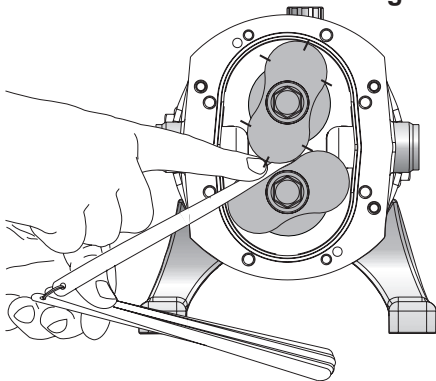

Fig. 15
1. Measure the interlobe clearances with feeler gauges at the 6 positions as shown in fig. 15. If these clearances are outside the tolerances stated in section 6.8. (column "Interlobe"), it is necessary to re-time the rotors.
2. Remove can (26) as described in section 4.4.
3. Choose one of the shafts to work on. Straighten the locking tab on the washer (55) and loosen the gear nut (56). (use e.g. a wedge shaped object of soft material e.g. wood, plastic or nylon wedged between the two wheels.) Ease the gear (54) max. 1 mm back along the shaft (it is important not to move the gear more than the 1 mm as it can cause damage to the rotors themselves).
4. Re-check the clearances and see if the rotors have shifted in the correct direction according to section 6.8. If the rotors have shifted in the correct direction as wanted go to section 4.9.1 item 6.
5. If the rotors have **not** shifted in the correct direction, retighten the gear nut (56) to the specified torque as described in section 6.1 and bend the tab washer down again (55). Return to section 4.9.1 item 3, but work on the other shaft.
7. The new distance between the spacer (52) and the moved gear (54) is measured with feeler gauges. Shims (53) with the total thickness corresponding to the distance measured are selected.
8. Remove the gear (54) and gear key (40) as described in section 4.6 from the shaft and fit the selected shims (53) on the shaft.
9. Re-fit gear key (40) and gear (54) as described in section 4.6.1. Re-fit tab washer (55) and gear nut (56) and tighten it to the specified torque as described in section 6.1.
10. Measure the interlobe clearances. If they are still not within the tolerances stated in section 6.8 repeat the procedure starting from section 4.9.1 item 3.